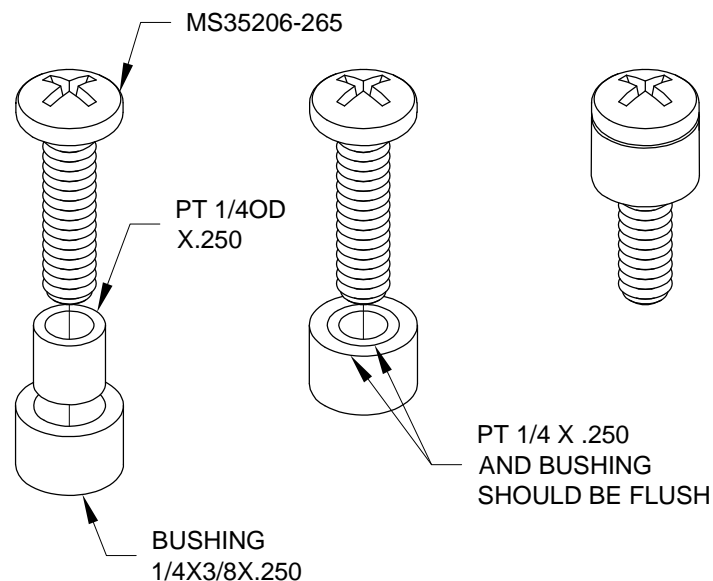

FIGURE 2: BUSHING AND SCREW ASSEMBLY
Step 2: Cut two 1/4 inch pieces from the PT 1/4OD X 2 clear tube and slip one piece inside each bushing as shown in Figure 2.
Step 3: Insert the screw into the plastic tube and bushing as shown in Figure 2. Take care that the plastic tube remains inside the bushing by setting the bushing and tubing on a flat surface and screwing the screw into place. Once the screw is well started the bushing may be held with a pair of pliers or a vise while completing the assembly. When finished the bushing and plastic insert will be in contact with the head of the screw as shown in Figure 2. Repeat for second screw and bushing.